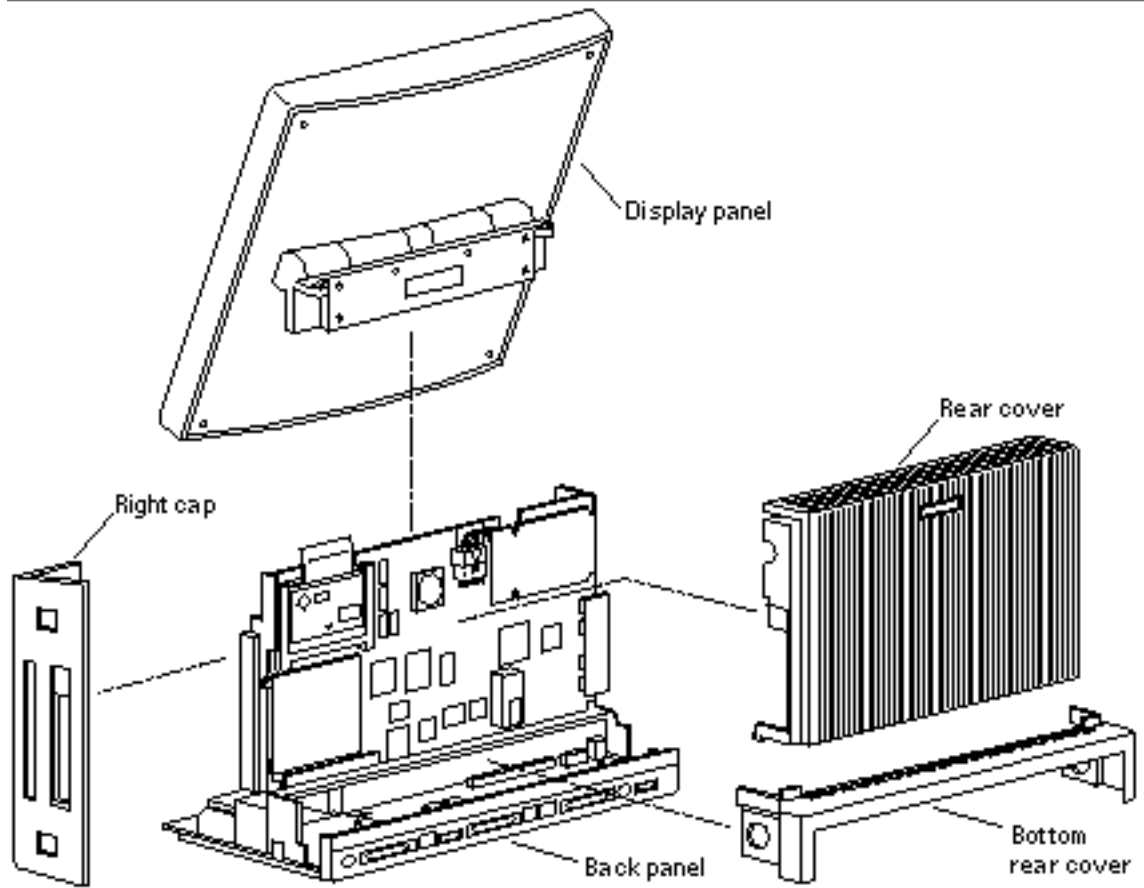

Figure 1-2 Rear View—Exploded
- Figure 1-2 shows the rear view